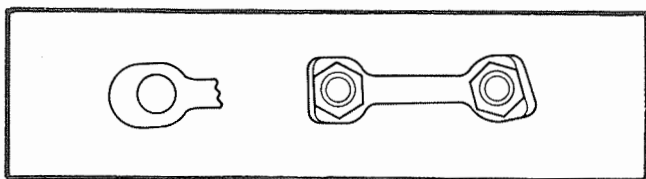

Figure 7-8. Multiple Hole Tab Washers
f. In the application of multiple hole tab washers, the installation shall be as above, except the tab "A" provision of step a is not required. See figure 7-8.